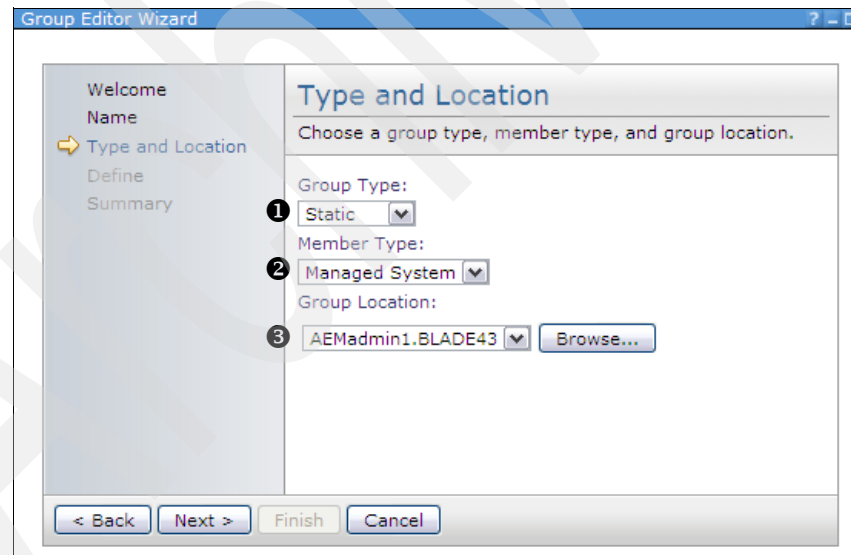

Figure 4-22 Type and Location
3. On the Type and Location page, select the appropriate Group Type, Member Type, and Group Location from the drop-down menus, as shown in Figure 4-22.
The fields shown in Figure 4-22 on page 133 are as follows: